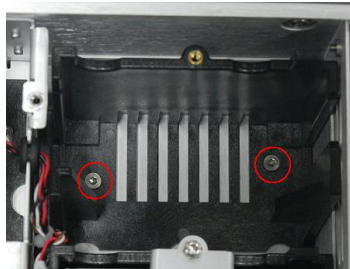

Figure 8 Installing the Aux EPC holder
1. Install the Aux EPC holder (See Figure 8)